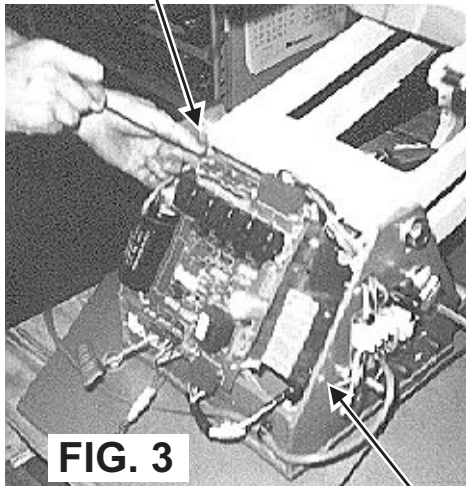

FIG. 3
7. Remove the PC board by unfastening it from (4) four plastic clips. See Figure 3.
8. Remove the PC board plate which is held on by (4) pan head screws and clips. See Figure 3